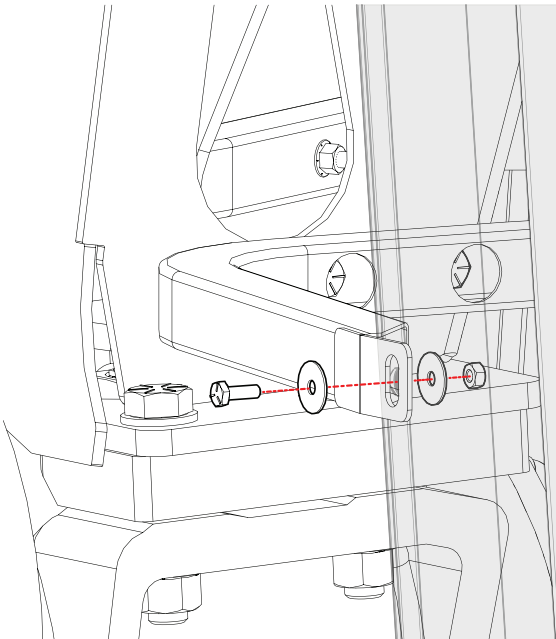

*Figure 9: Remove and retain the three bolts and nuts that secure the PRD block to the rail.*
5. Remove and retain the (3) bolts and nuts that secure the PRD block to the rail (Figure 9).